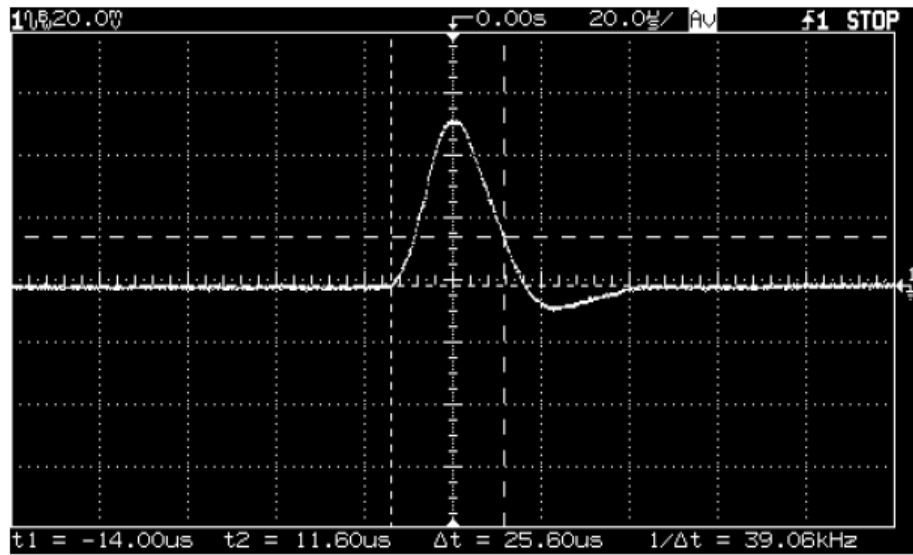

Figure 3-5 Transient response time
- 5 Adjust the oscilloscope to display transients as shown in Figure 3-5. Note that the pulse width (t2-t1) of the transients at 15 mV from the base line is no more than 50 μ sec for each of the three outputs.
- 6 Repeat steps (1) through (5) for the remaining outputs.